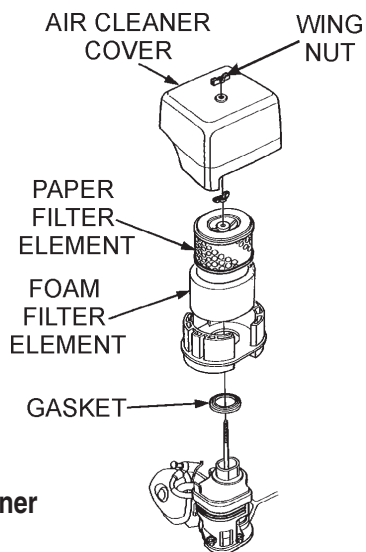

Figure 20. Air Cleaner
1. Remove the air cleaner cover and foam filter element as shown in Figure 20.